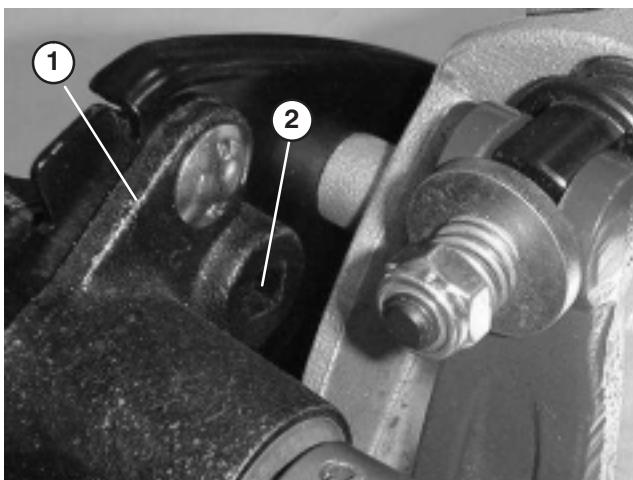

Figure 39
B. Using a 3/8 in. drive torque wrench, rotate the bearing housing with 35–40 in.-lb. of torque to set belt tension (Fig. 39)
B. Using a 3/8 in. drive torque wrench, rotate the bearing housing with 35–40 in.-lb. of torque to set belt tension (Fig. 39).